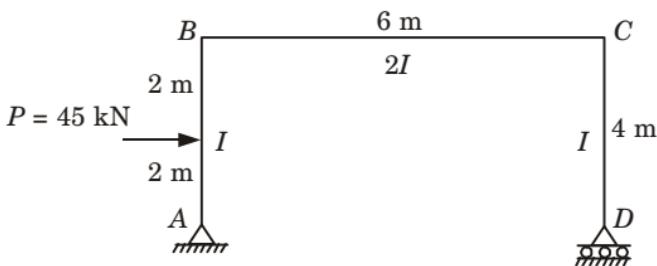

Fig. 30.
- b. Find the horizontal movement of the roller end D of the portal frame shown in Fig. 30. Take  $E = 2 \times 10^8 \text{ kN/m}^2$  and  $I = 3 \times 10^4 \text{ m}^4$ . The moment of inertia of the column section is  $I$  while that of beam is  $2I$ .
**Given :** Frame shown in Fig. 30,  $E = 2 \times 10^8 \text{ kN/m}^2$ ,  $I = 3 \times 10^4 \text{ m}^4$